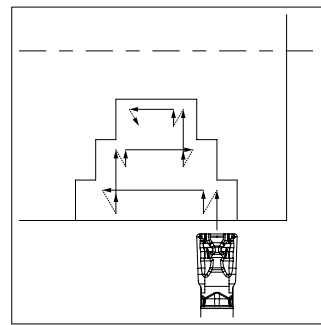

Fig.3
1. When widening the groove width (Refer to Fig.3), apply the "Step Turning."